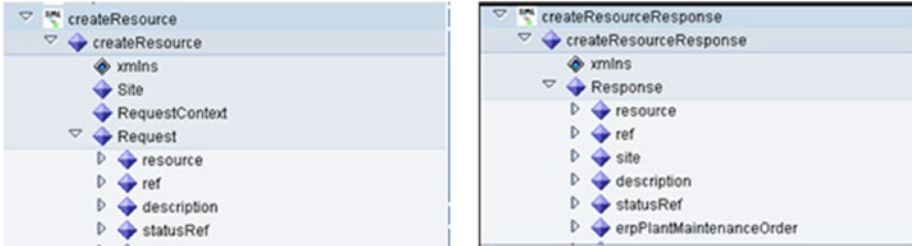

Figure 6-82. Web Service request and response structure
5. Click the Finish button. The web service configuration is now done. The web service request and response structure will appear in the Link Editor, as shown in Figure 6-82.